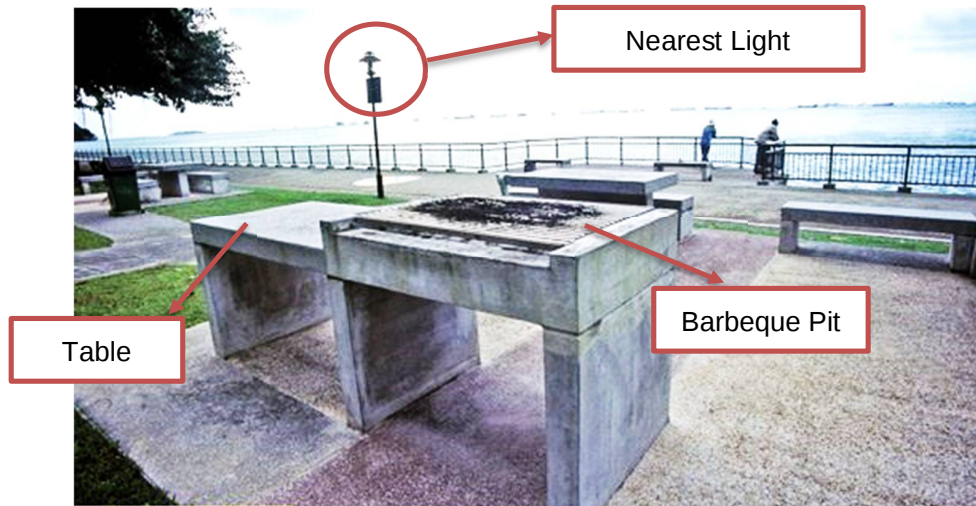

Fig. 1.1
- 1 Figure 1.1 shows a barbeque pit at a park. The nearest light is far away, making the area around the barbeque pit quite dim at night. This causes inconvenience for users who are unable to see if their food is fully cooked. A portable lamp placed on the table beside the barbeque pit would help address this issue.